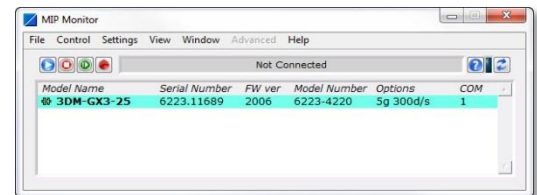

Figure 3: Not Connected
- Click Save Current Settings as shown in figure 3, and an Information window will appear indicating that settings you have entered will be saved as the startup settings.